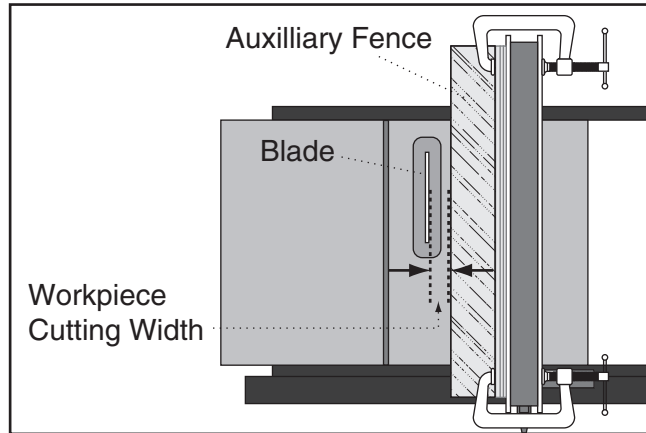

Figure 132. Example illustration of adjusting ripping distance between blade and auxiliary fence.
1. Place auxiliary fence on table and clamp it to rip fence at both ends, then adjust distance between the auxiliary fence and blade—this determines width of rip cut (see **Figure 132**).